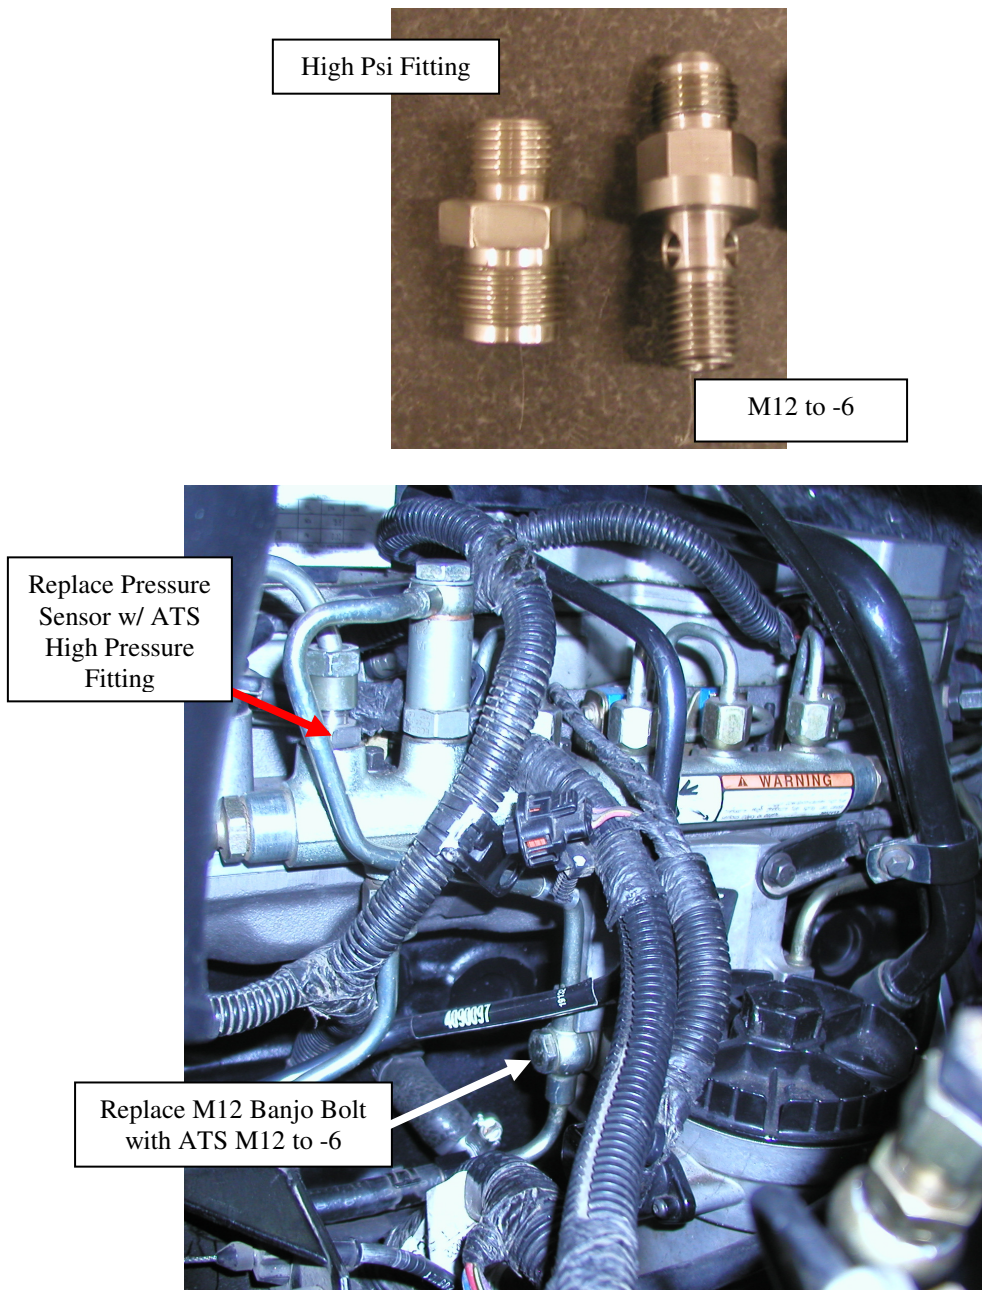

Figure 7: Fitting Locations
18. Remove the banjo bolt from the return line on the fuel filter housing (Figure 7) and install the one of the two ATS M12 Banjo to -6 fittings in this location.